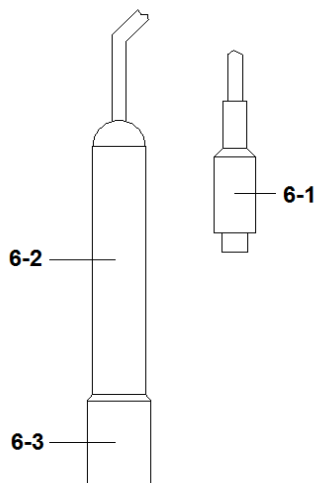

Fig. 3
- 1) Prepare the Conductivity Probe (included, CDPB-03), install the " Probe Plug " (6-1, Fig. 3) into the " CD Socket " (3-15, Fig. 1).
- 3) Hold the " Probe Handle " (6-2, Fig. 3) by hand and let the " Sensing head " (6-3, Fig. 3) immersed wholly into the measured solution. Shake the probe to let the probe's internal air bubble drift out from the sensing head.
- 2) Install the " Probe Plug " (6-1, Fig. 3) into the " CD Socket " (3-15, Fig. 1).
- 4) Hold the " Probe Handle " (6-2, Fig. 3) by hand and let the " Sensing head " (6-3, Fig. 3) immersed wholly into the measured solution. Shake the probe to let the probe's internal air bubble drift out from the sensing head.